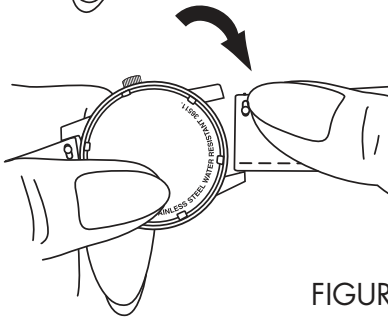

FIGURE 2A
2. (Figure 2A) Pull gently down and away on strap to detach it from case on release button side.
1. (Figure 2A) Guide strap/bracelet, with inside facing you, into position between lugs of case.